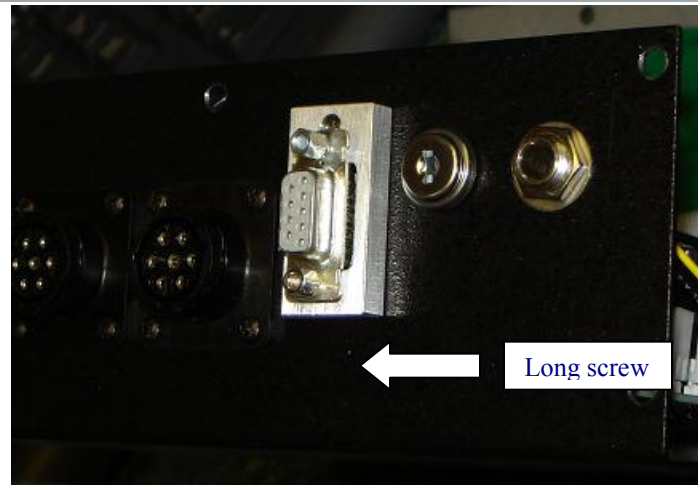

Figure 4
- 7) There were two hex shaped screws (Jack screws) included with the adapter kit. These are used to attach the RS-232 connector to the adapter block. See Figure 4. The short hex shaped screw (Jack screw) is used closest to the Fillister screw (small Phillips head) screw. The long hex shaped screw (Jack screw) is used on the opposite end. The long screw will go through the adapter block and thread into the case. Once the screws are attached, tighten securely. Figure 5 shows the completed assembly.